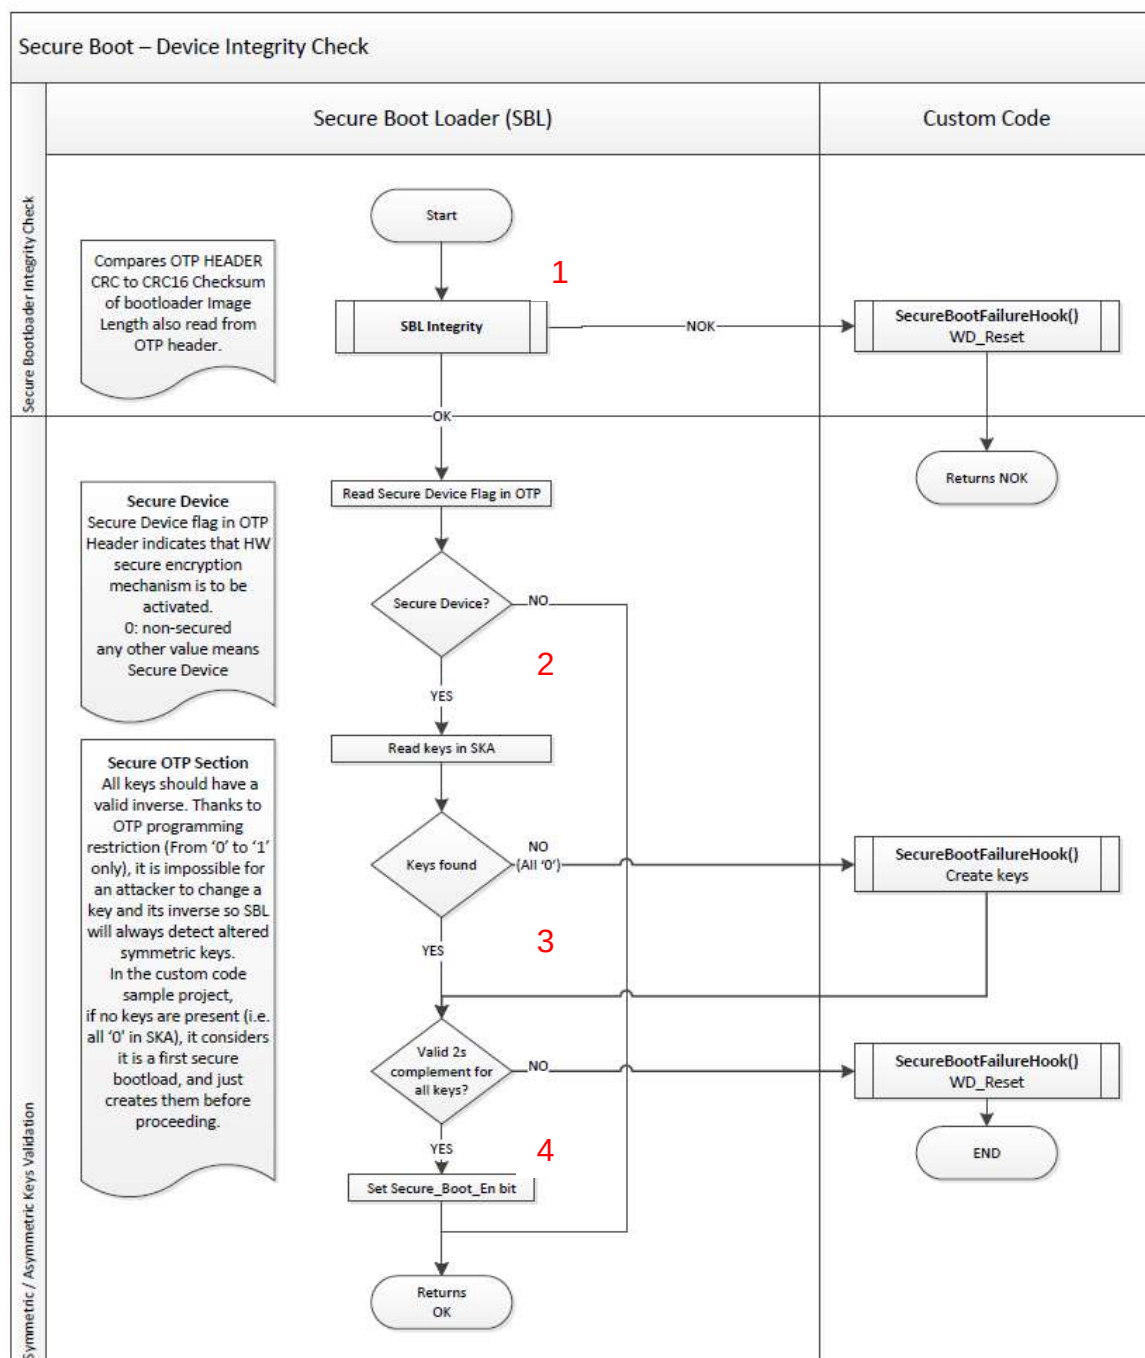

Figure 45: Secure Boot – Device Integrity Check
- "Device Integrity", Figure 45, is a feature of Secure Boot which: